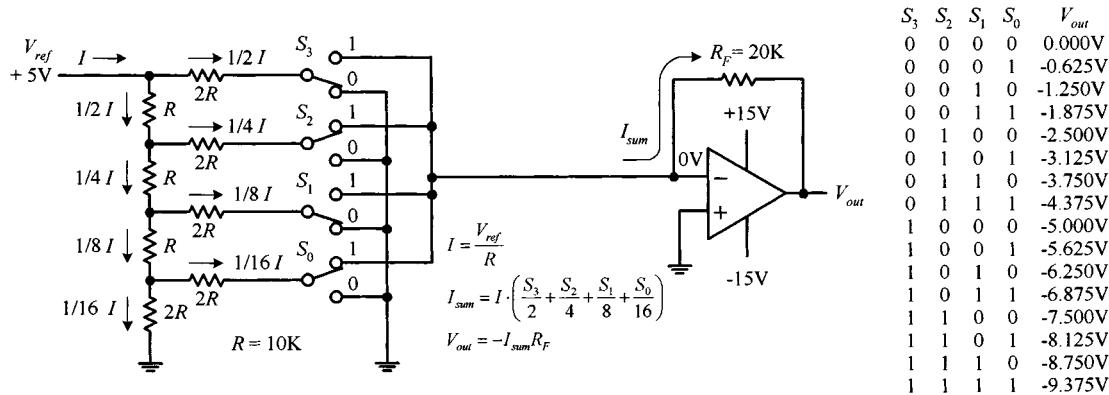

FIGURE H.7
that we need only two resistor values, R and $2R$. Figure H.7 shows a simple 4-bit $R/2R$ DAC. For now, assume that the switches are digitally controlled (in real DACs they are replaced with transistors).
The trick to understanding how the $R/2R$ ladder works is realizing that the current drawn through any one switch is always the same, no matter if it is thrown up or thrown down. If a switch is thrown down, current will flow through the switch into ground (0 V). If a switch is thrown up, current will flow toward virtual ground—located at the op amp's inverting input (recall that if the noninverting input of an op amp is set to 0 V, the op amp will make the inverting input 0 V, via negative feedback). Once you realize that the current through any given switch is always constant, you can figure that the total current (I) supplied by V_{ref} will be constant as well. Once you've got that, you figure out what fractions of the total current passes through each of the branches within the $R/2R$ network using simple circuit analysis. Figure H.7 shows that $\frac{1}{2}I$ passes through S_3 (MSB switch), $\frac{1}{4}I$ through S_2 , $\frac{1}{8}I$ through S_1 , and $\frac{1}{16}I$ through S_0 (LSB switch). If you're interested in how that was figured out, the following circuit reduction should help.
determined by $V_{\text{out}} = -I_{\text{sum}}R_F = -(156.25 \mu\text{A})(20 \text{ k}\Omega) = -3.125 \text{ V}$. The formulas and the table in Fig. H.7 show the other possible binary/analog combinations.